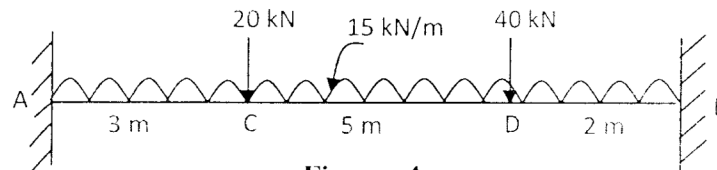

Figure: 4
7. Draw Shear force diagram for the fixed beam shown in figure 4. [10]